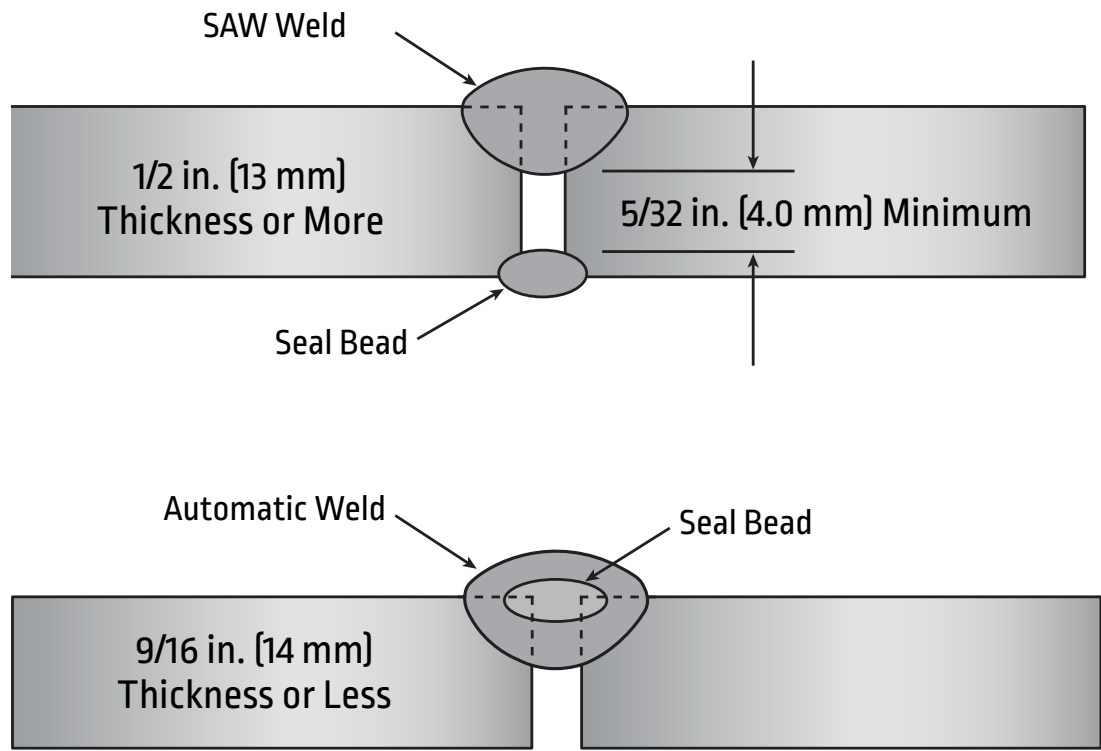

Figure 4-7: Seal Beads
1. For 1/2 in. (13 mm) plate thickness and thicker seal beads should be placed on the second pass side (see Figure 4-7 on page 71).
2. For thinner plate, seal beads and/or tack welds should be placed on the first side (see Figure 4-7 on page 71).